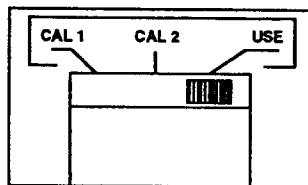

Figure 9-1. MOD Calibration Switch
6. Place the CAL switch, located on the DATA MOD, to CAL1 (refer to Figure 9-1).
11. Place the CAL switch on the data MOD to CAL2 (see Figure 9-1). The display will now read P2 + 061.7MV \pm a few tenths of a millivolt. Press "ENTER".
7. Place the CAL switch located on the rear of the MOD to CAL1 (refer to Figure 9-1).